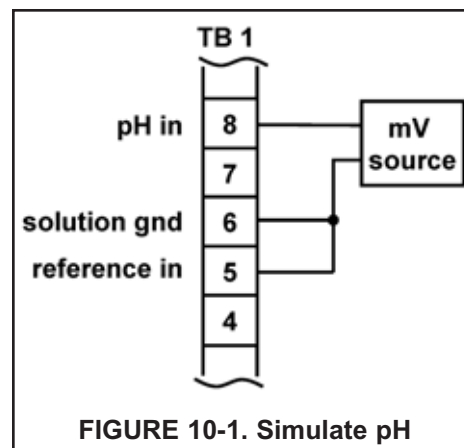

FIGURE 10-1. Simulate pH
4. If a standard millivolt source is available, disconnect the jumper wire between the pH IN and the REFERENCE IN terminals and connect the voltage source as shown in Figure 10-1.